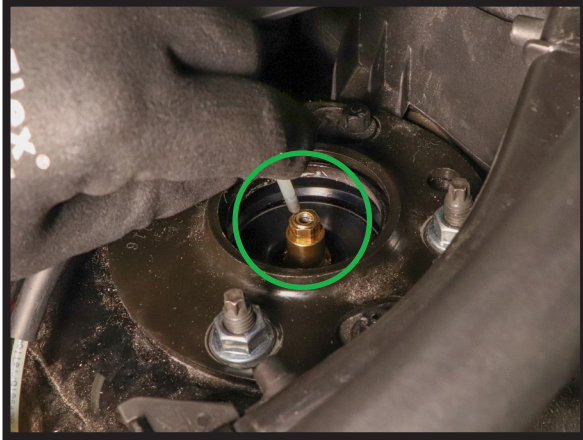

FIGURE 39
12. CONNECT THE AIR LINE TO THE STRUT AIR FITTING. PUSH IN UNTIL LINE IS FIRMLY SEATED. (FIGURES 39, 40)